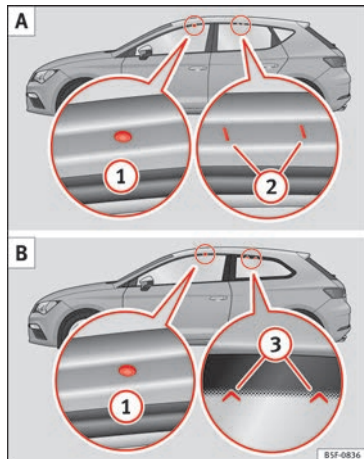

Fig. 187 Leon/Leon SC: attachment points for the roof railings for the roof carrier system. »
The front and rear attachment points ① and ② are only visible when the doors are open »» Fig. 187 A.
rear attachment points ③ are marked on the top edge of the glass with arrow heads »» Fig. 187 B.